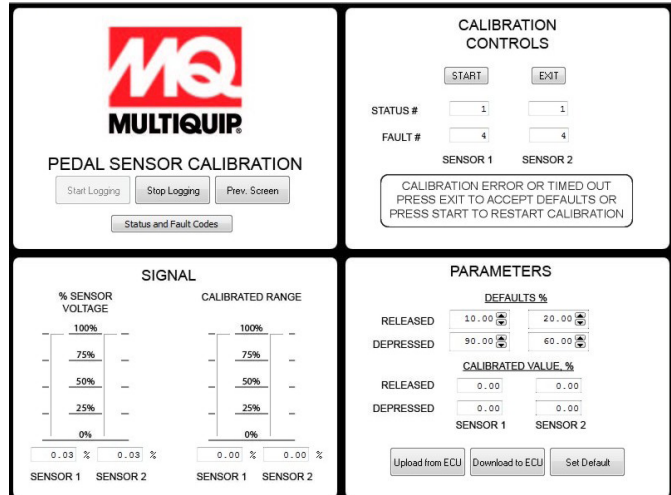

Figure 28. Start Pedal Sensor Calibration
- b. Read % SENSOR VOLTAGE for both sensors 1 and 2 (Figure 28).